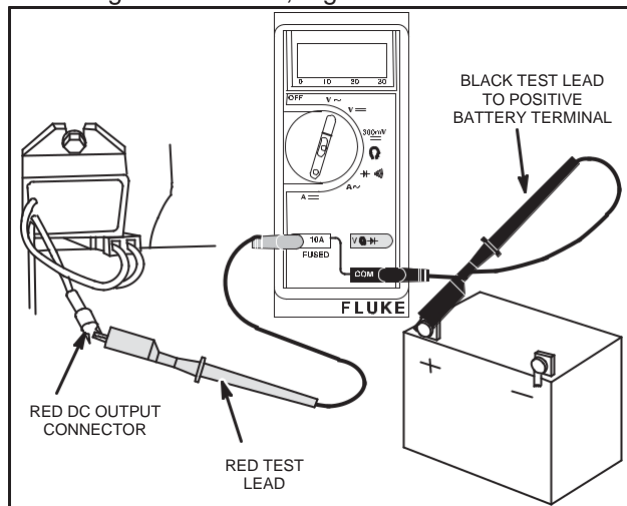

Fig. 22 – Testing Regulator-Rectifier
4. Attach RED test lead clip to red DC output terminal on regulator-rectifier, Fig. 22.